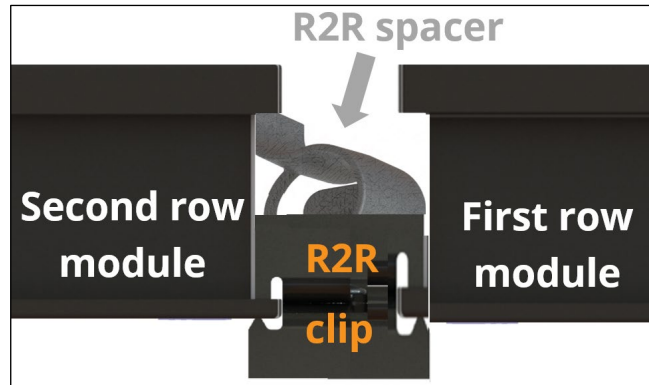

Fig. 34
2. Ensure that the both jaws of the clip fit over the respective module frames fully (Fig. 34).